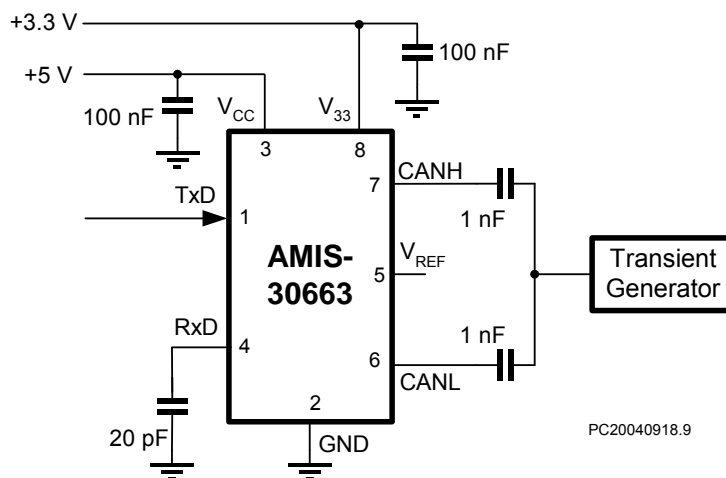

Figure 4: Test Circuit for Automotive Transients
- 1) Applied transient waveforms in accordance with "ISO 7637 part 3", test pulses 1, 2, 3a, and 3b (see Figure 4).